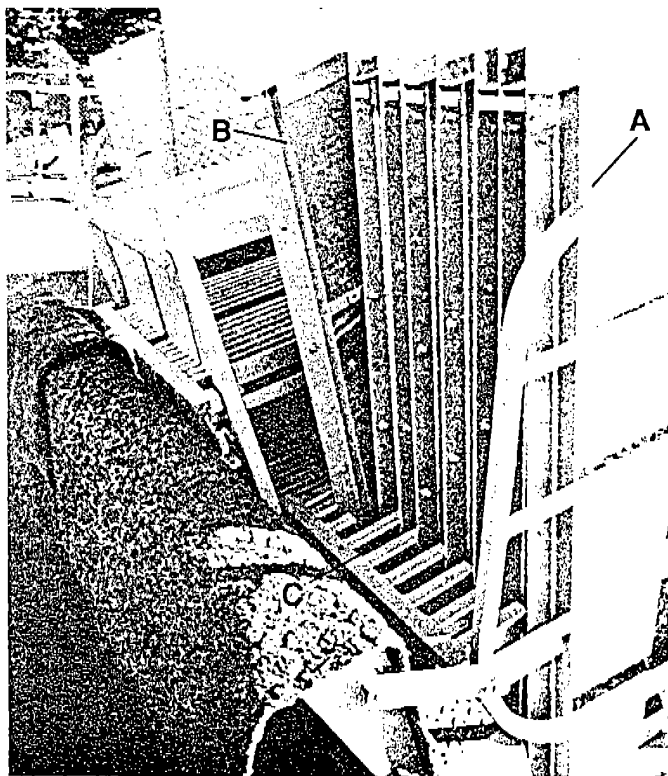

Fig. 78
- (2) Fit the holes in the ends of the cross rack over the top set of pins on the "H" frame. *Snap Key in Place.*
- b. Load the back floor section first. Store it next to the outside gooseneck handrail (a). (Fig. 78)
- (1) Load the walkway floor sections in sequence, working from the back of the ride around to the front.
- (2) Store each section in the loading rack slots, starting from the outside of the ramp, working in toward the center of the ramp. The last section is stored next to the stack of walkway handrail sections (b). (Refer to Fig. 78)
- (3) Position each floor section with the kick ledge resting on the ramp. The tread plate faces in toward the center handrail of the gooseneck. Fit the edges of the floor sections between the spaces in the racking bar on the step (c). (Refer to Fig. 78)